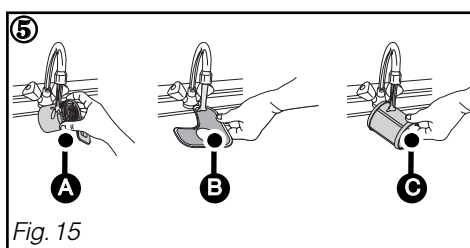

Fig. 15
- ② Loosen the waste filter a quarter of a turn and then remove it **A**
- ③ Remove the main filter **B**
- ④ Remove the micro filter **C**
- ⑤ Carefully clean filters **A**, **B** and **C** under running water (Fig. 15)